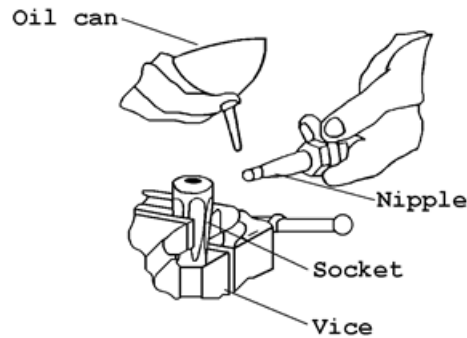

FIG 27.
- Oil the nipple threads and the inside of the hose liberally. This will prevent the nipple damaging the inner tube when it is screwed into the pipe. (Fig 27)